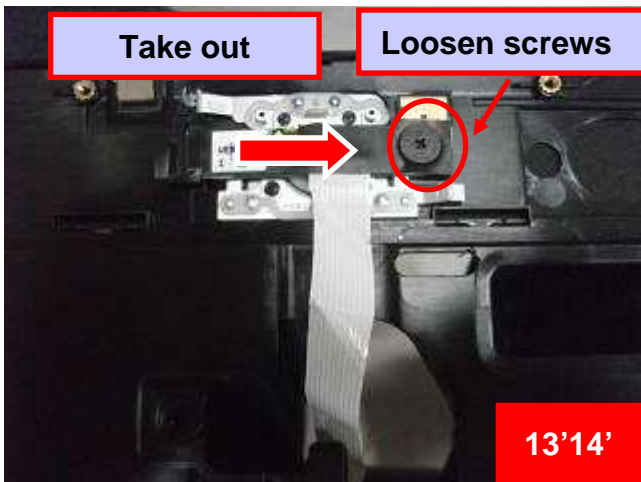
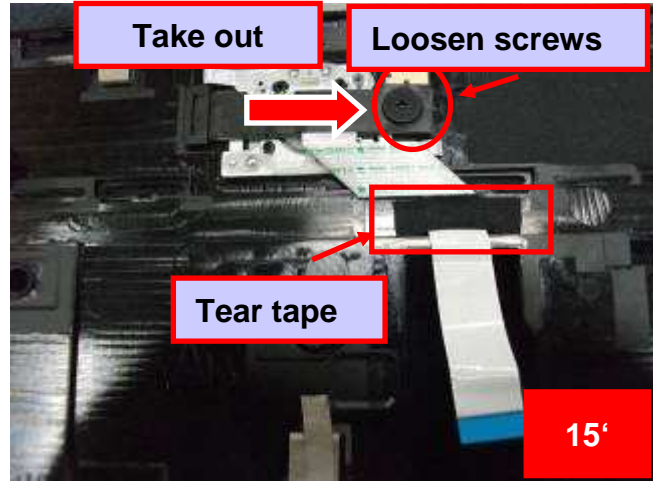

Fig.2
Fig.3
1. Tear tape of acetic acid of FFC(6054A0076201)*1 (Fig.3)
3. Disassemble power/B(1310A2343201), (Fig.2, Fig.3) °